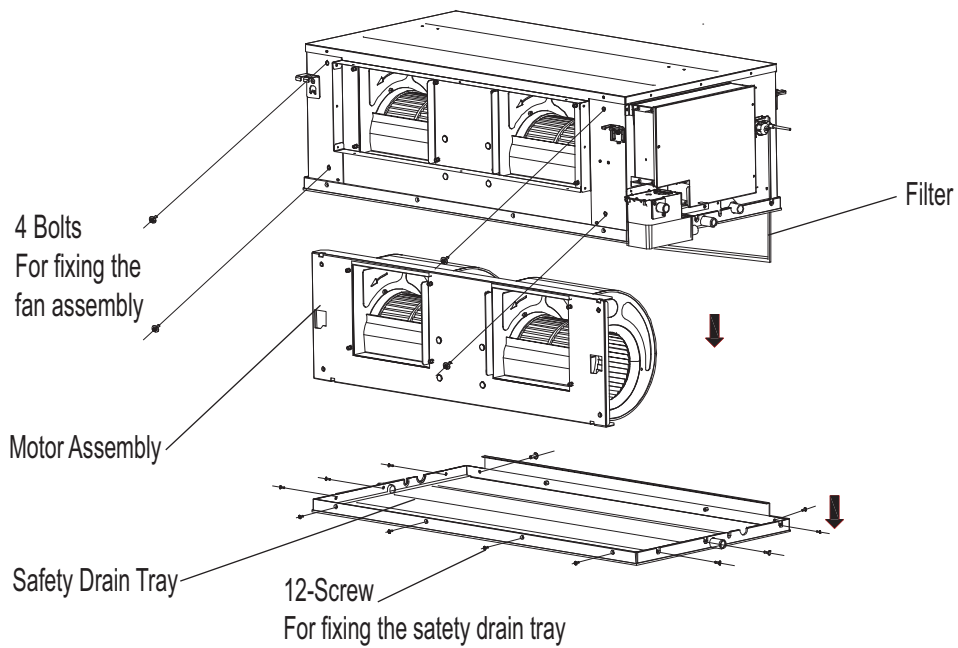

Fig. 32 —Fan Disassembly 036-054
1. Remove all 12 screws from the Safety Drain Tray, and remove the safety drain tray (See Fig. 32).